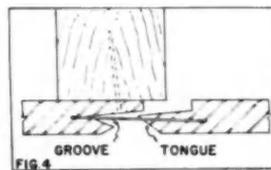

FIG 4
4. Place this second unit so that Lok-Pins enter groove behind nailing range of first unit (Fig. 4).